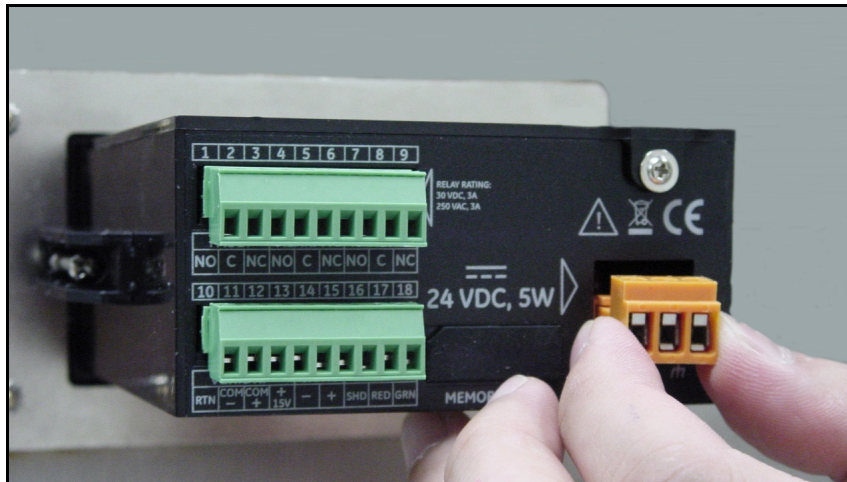

Figure 41: Removing the DC Connector
1. Remove the DC Connector from the rear panel (see Figure 41).